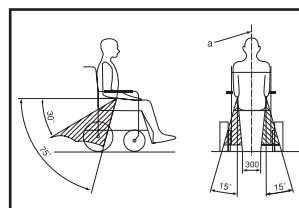

Figure 2
- The lap belt must be positioned low across the occupant's waist. The angle between the belt and the floor must be between 30° and 75° (a larger angle is better) (see Figure 2).